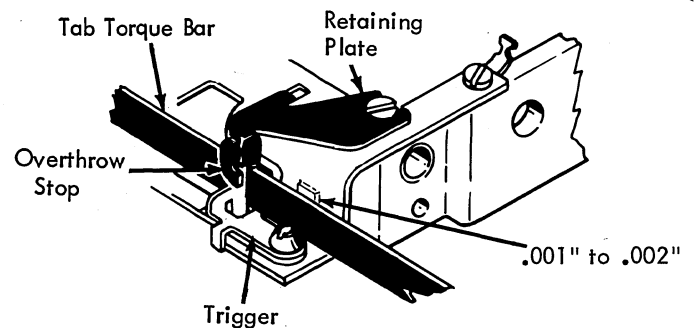

FIGURE 169. Tab Lever Overthrow Stop & Retaining Plate (New)
11. Tab Lever Overthrow Stop and Retaining Plate (Fig. 169) - Replace the tab torque bar overthrow stop and retaining plate and position it so that the overthrow lug falls directly in line with the upper lug on the tab trigger and retaining plate when positioned against the torque bar maintains $.001'' - .002''$ clearance between the torque bar and escapement bracket. The outer lug or overthrow stop should then be formed for $.005'' - .010''$ clearance between the tab lever trigger and the overthrow lug with the tab cam on its high point.